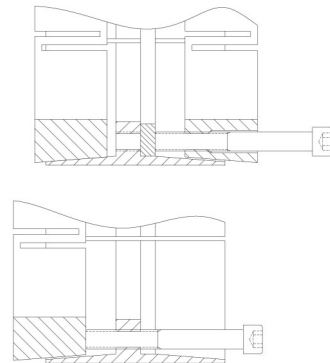

Figure 2
3. Using the modified screws from Step 1, insert into all jacking holes located in front collar (see top of Figure 2).
5. Once the front collar is removed, remove the dismantling ring using the smaller threads if needed, insert the same screws into the integrated jacking holes in the center shoulder and repeat Step 4 to release the back collar (see bottom of Figure 2).